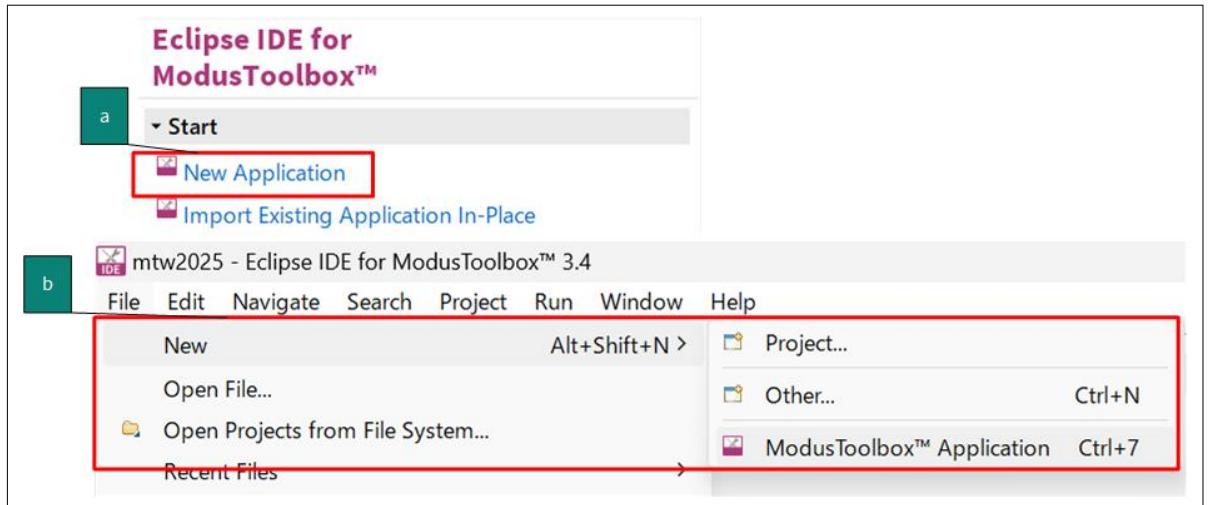

Figure 7 Create a new ModusToolbox™ application
- b. Alternatively, you can choose **File > New > ModusToolbox™ Application**, as shown in Figure 7